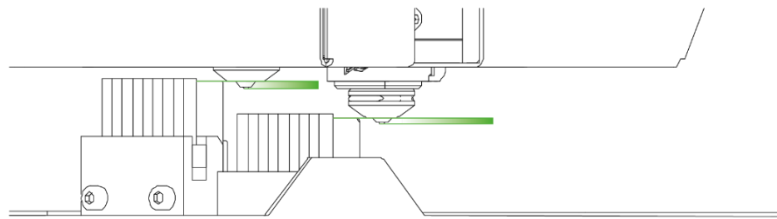

Fig. 11 Cleaning station slats properly adjusted in relation to the module nozzles
4. Visually check if the cleaning station slats are correctly adjusted with respect to the nozzle in the printing module. When properly adjusted, the nozzle cover is gently in contact with the cleaning station's slat (Fig. 11).
4. Check again that the cleaning station slats are well adjusted relative to the corresponding printing module nozzle (Fig. 11).